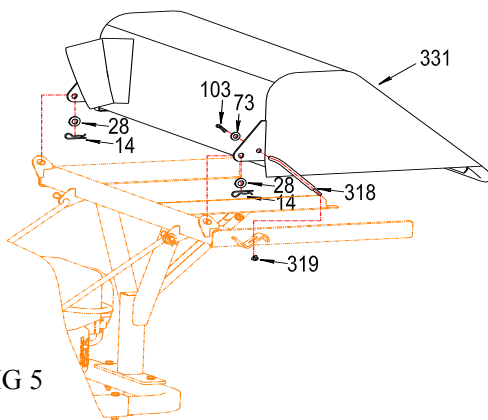

FIG 5
- 1) Line up pins of bag base frame with holes of catcher hood (331) and lower hood onto frame. Install washers and cotter pins (28, 14).
- 2) Insert the threaded end of hood stop rod (318) into the slotted tab on bag base frame; add Part flange nut (319) and tighten.
- 3) Insert the top end of hood stop rod into the hole in catcher hood tab. Install washer and cotter pin (73, 103). (FIG 5)